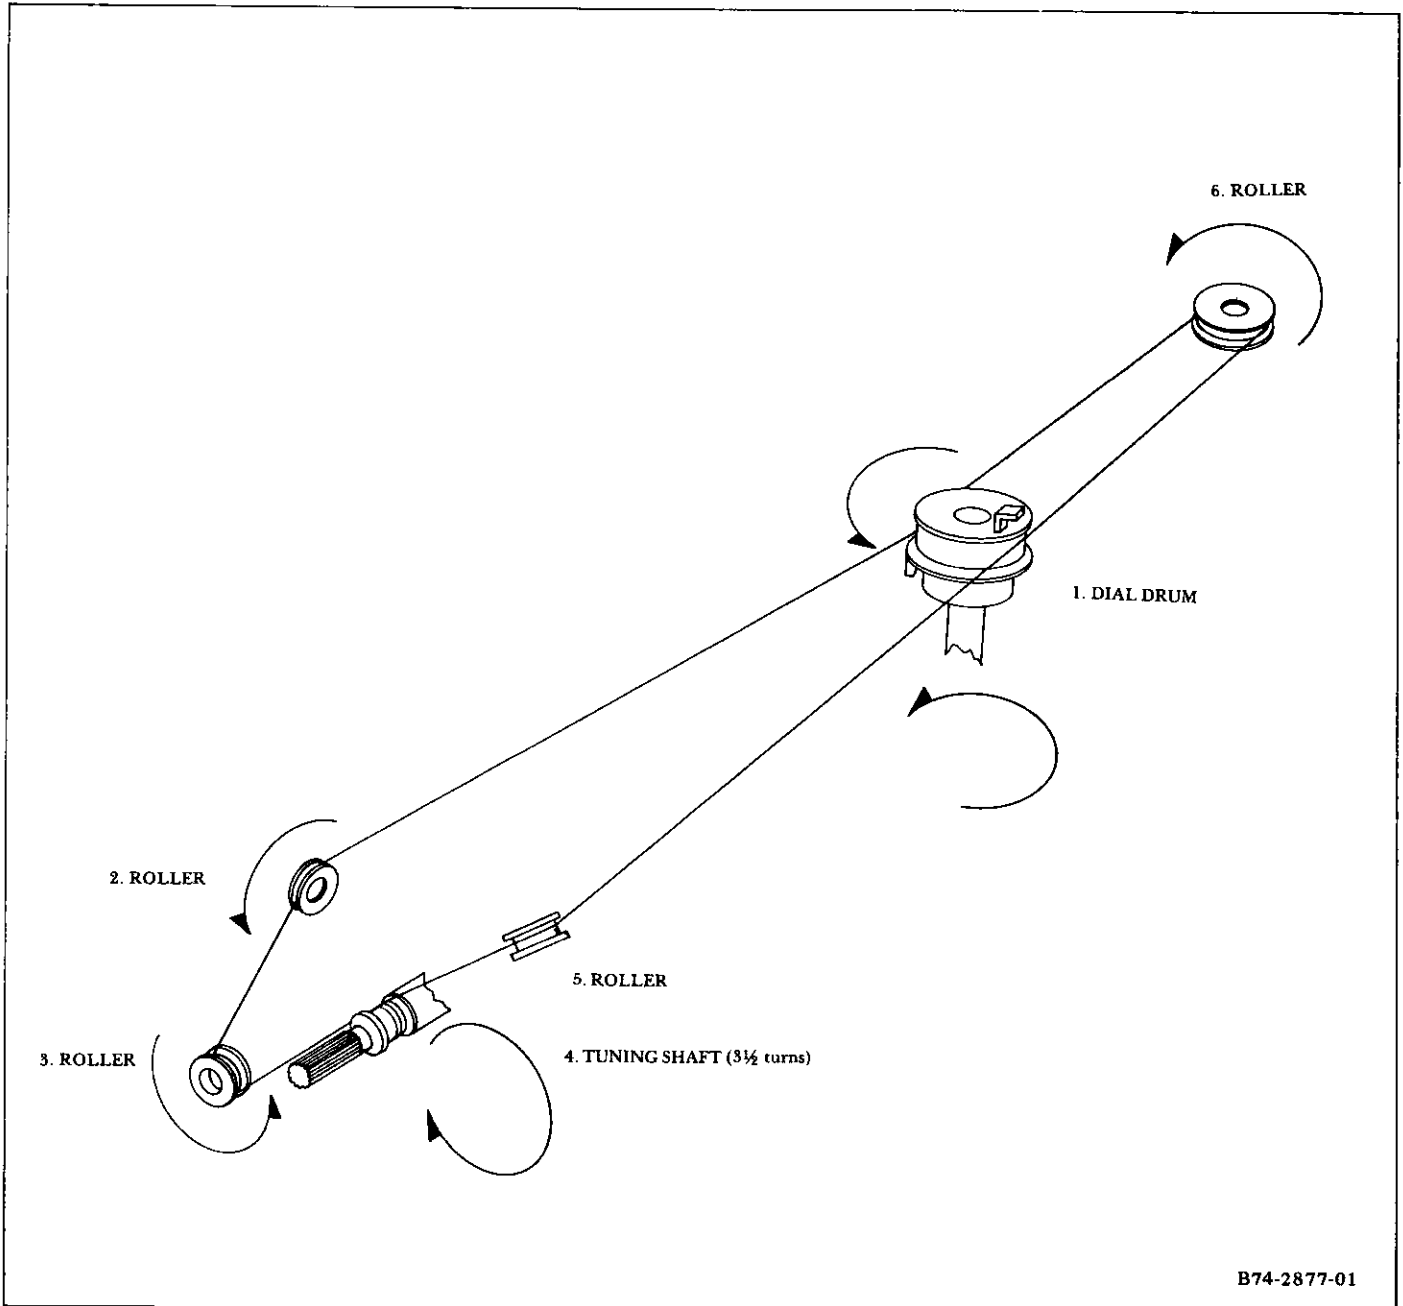

Figure 14—Dial Cord Restringing
Refer to figure 14 and proceed as follows:
- String dial around nylon pulleys and tuning shaft, as illustrated in figure 14, then $2\frac{1}{2}$ times around drum and attach dial cord securely to upper drum hook. Make certain cord winds around tuning shaft from rear toward front.